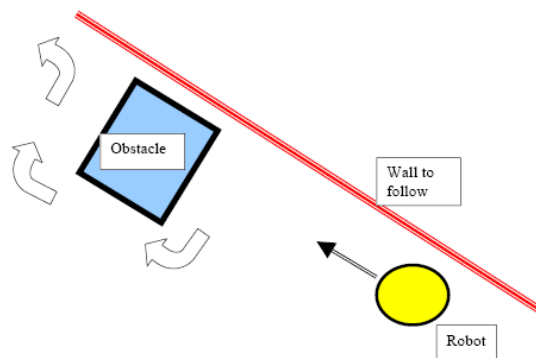

Figure 4: Wall Following and Obstacle Avoidance Integration
- ii. If the robot is following a wall and encounters an obstacle, write a program so that the robot navigates around the obstacle and continues to follow the wall (see Figure 4).